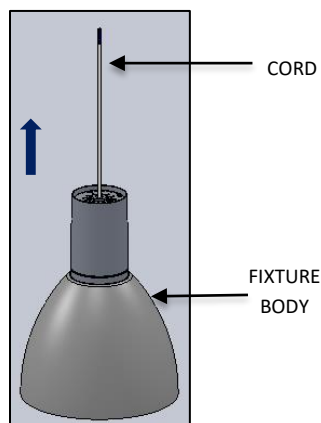
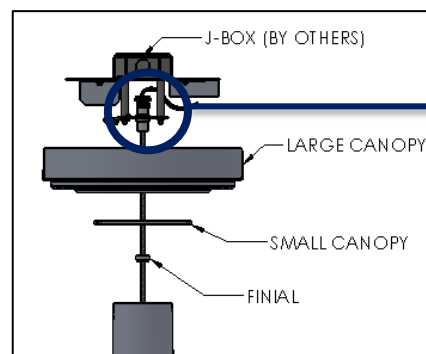
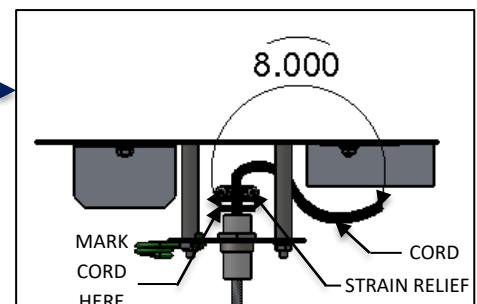

FIG. 10 – FIXTURE INSTALLATION
FIG. 11 -CORD INSTALLATION
FIG.12 – DETAIL SHOWING CORD TRIM INFORMATION
4. Raise the LEVO FIXTURE and pass the CORD through CANOPY FINIAL, CANOPY AND ALL THREAD. ADJUST FIXTURE DROP TO DESIRED HEIGHT as shown below in FIG. 10. Mark cord with marker inside of DRIVER MOUNTING BRACKET as shown below in FIG. 11. Trim off excess cord leaving minimum of 8.00" past the top of the DRIVER MOUNTING BRACKET all thread as shown below in FIG. 12.